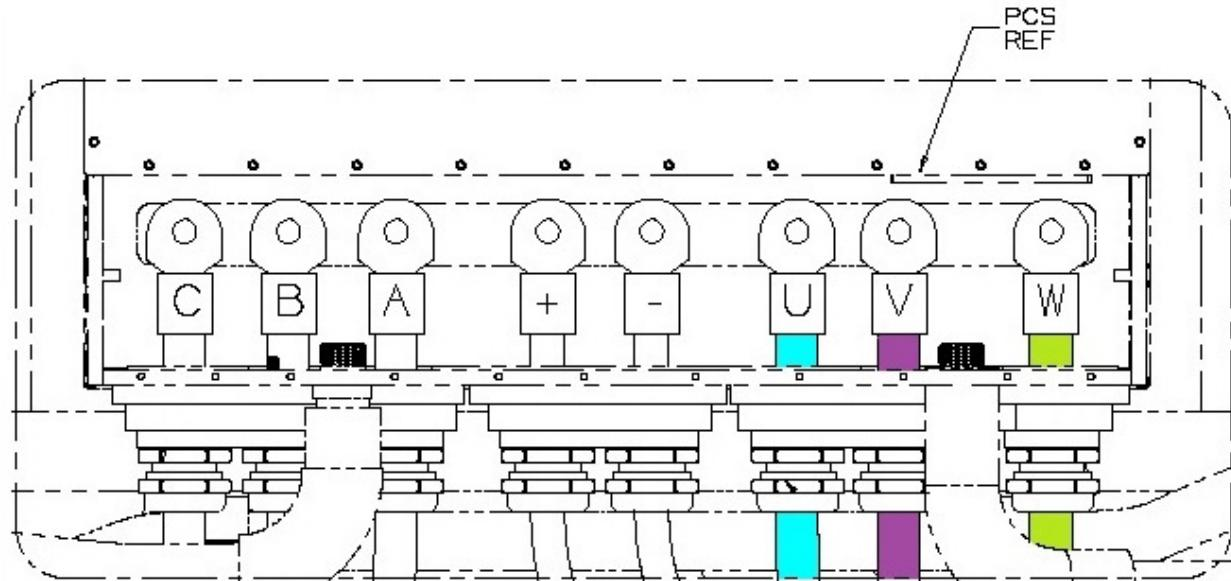

Figure 4: Propulsion Control System (PCS) Terminal Connections
- j. Insert cable assembly into the appropriate slot in the PCS. Refer to Figure 4.